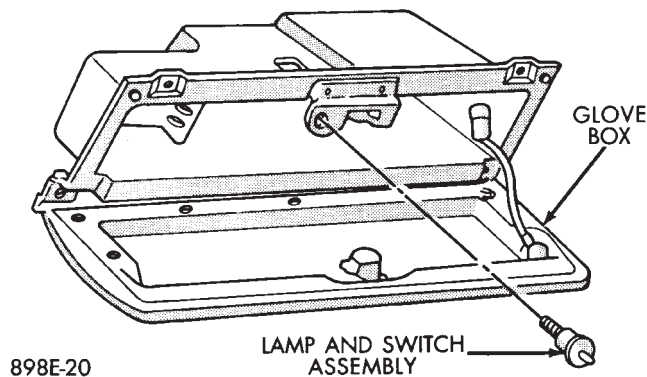

Fig. 27 Glove Box Lamp and Switch
- (1) Open glove box door (Fig. 27).
- (2) Carefully pry lamp from its mounting surface with tip of a small screwdriver.
- (3) Pull lamp from box and disconnect electrical leads.
- (4) Remove lamp.
- (5) For installation reverse above procedures.